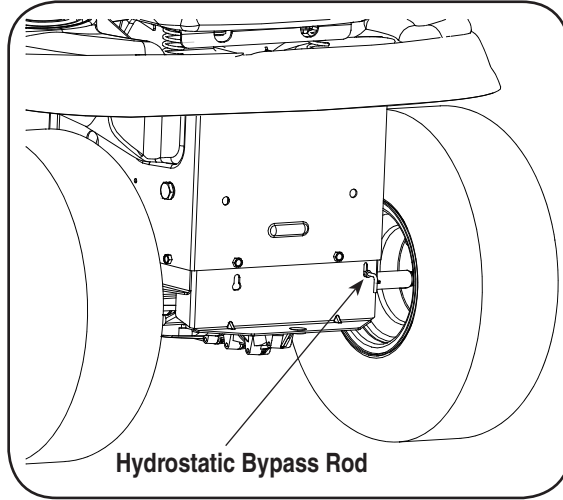

Figure 4-7
- Locate the hydrostatic bypass rod in the rear of the tractor. See Figure 4-7.